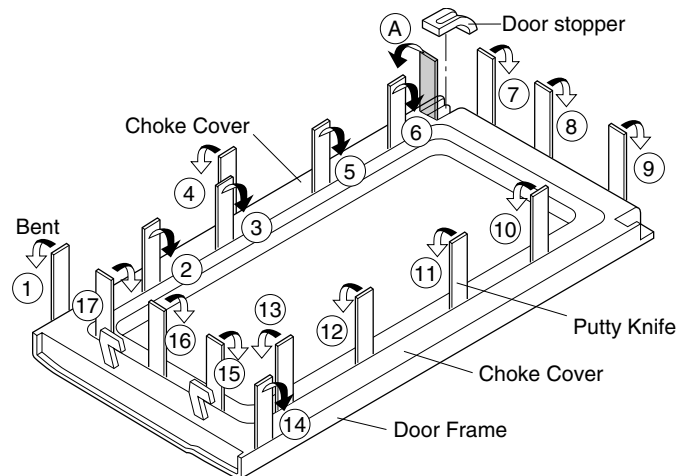

Figure C-3. Door Disassembly
- Insert an putty knife (thickness of about 0.5mm) into the gap Δ between the door stopper and the choke cover as shown in Figure C-3 to free engaging parts.
7. Insert an putty knife (thickness of about 0.5mm) into the gap between the choke cover and door panel and between the choke cover and the door frame as shown Figure C-3 to free engaging parts.
8. Try the principles of the lever and lift up the choke cover by inserting a putty knife in order shown in Figure C-3.